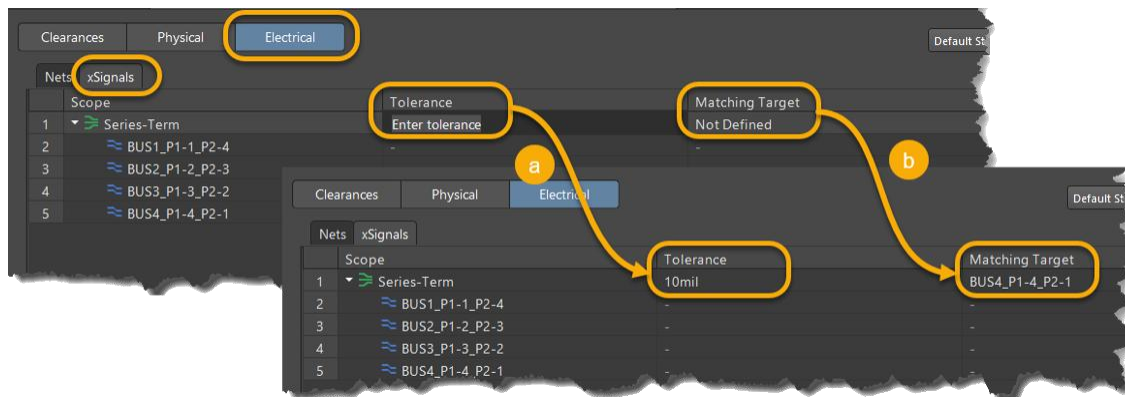

Figure 12. Adding Tolerance and Reference Net for xSignal class
26. Now you can add a tolerance to the xSignals class. This tolerance will be transferred to the PCB, as Matched Length rule for Length Tuning. Additionally, you can define a net as Matching Target net. For the training example, the Signal BUS4 is used as a reference. Please, follow the steps below, Figure 12: